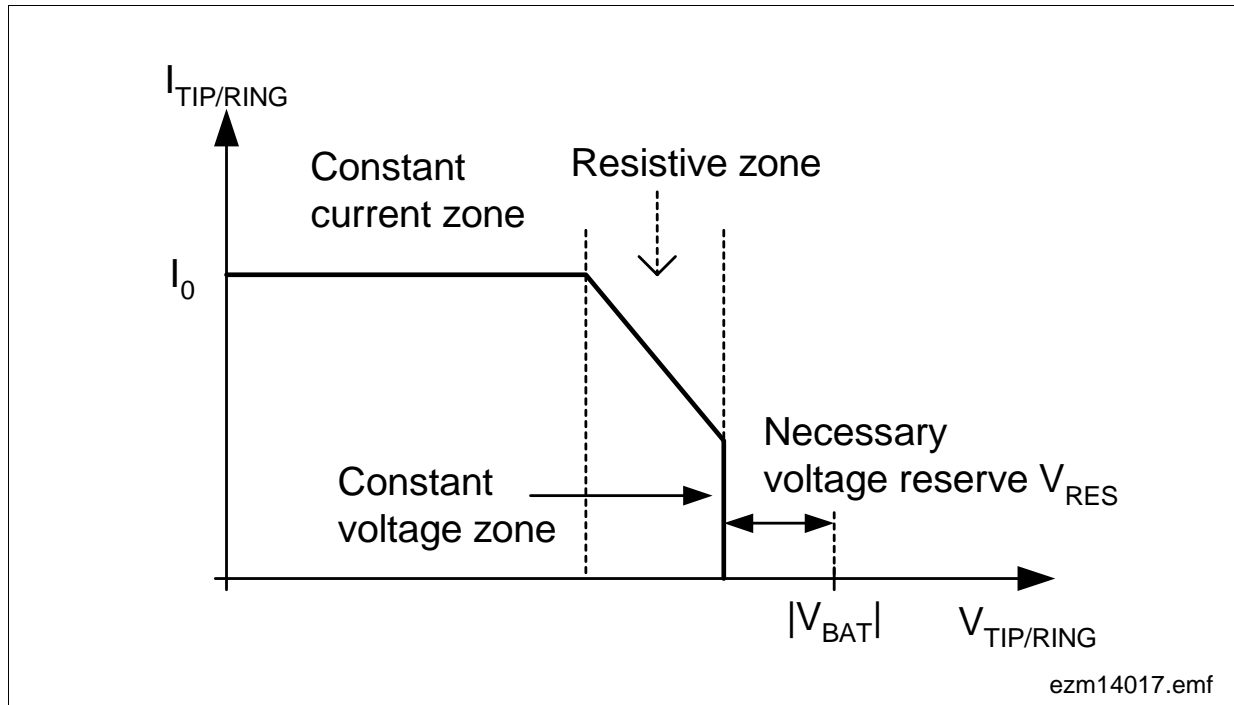

**Figure 13** Signal Paths – DC Feeding
**Figure 13** shows the signal paths for DC feeding between the SLIC and *SLICOFI-2x*: